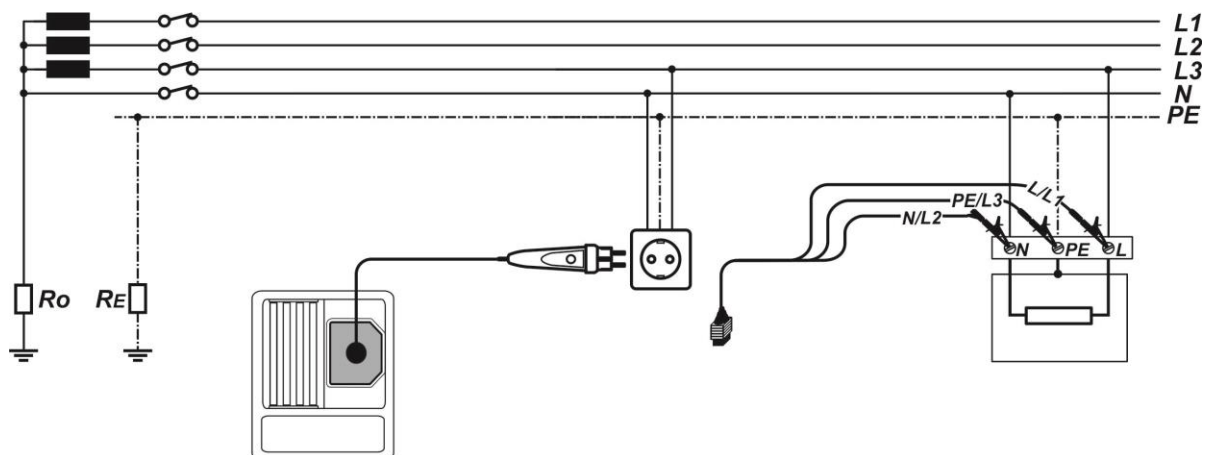

Figure 5.51: Connection of plug test cable and 3-wire test lead
- ❑ **Connect** test leads to the item to be tested (see *Figure 5.51*).